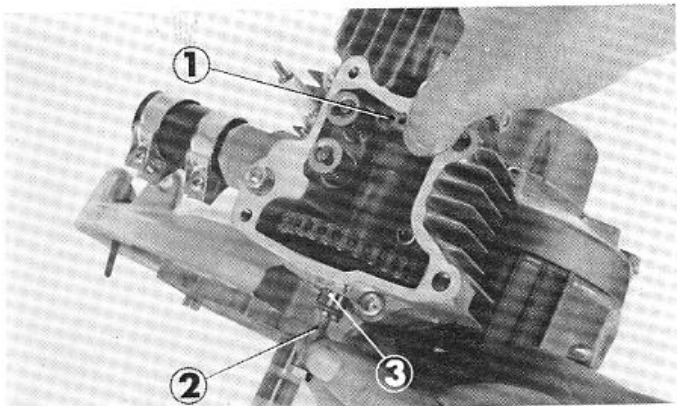

Fig. 2-7 ① 3×12 dowel pin ② Bolt
**Camshaft center pin can be easily removed by screwing in a bolt (Fig. 2-7)**